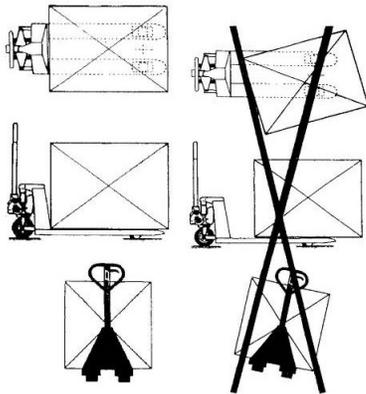

Figure 6
- The correct way to load and operate the pallet truck is shown in Figure 6.
The ideal loading mode is to place the center of gravity of the load at the central position of the forks. Do not place the load at the tip of the forks. The correct way to load and operate the pallet truck is shown in Figure 6. Avoid loading more than one pallet on the truck. Ensure the stability of the load. Load capacity is shown on the capacity label and name plate.